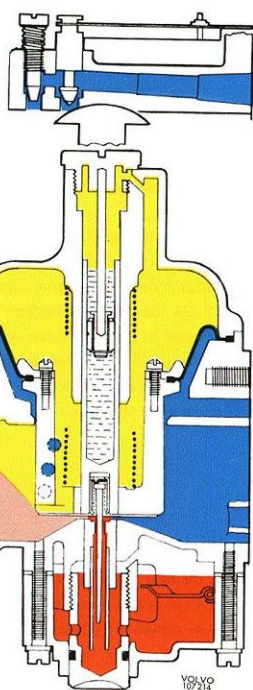

Fig. 2-78. Idling, warm engine
When the engine is idling, the vacuum in the carburetor suction chamber is low and the column between the air valve and the bridge will be small (see Fig. 2-78). At this stage, the thicker section of the metering needle is in the jet and thus only a small quantity of fuel, corresponding to idling requirements, is sucked into the engine. The temperature compensator (Fig. 2-77) is regulated by a bi-metal spring (3) which influences a valve (2). When the engine is warm and the temperature in the carburetor rises, the valve opens and air is supplied to the carburetor venturi to compensate for the increase in the fuel flow, which is obtained due to the alteration in the fuel's viscosity, see Fig. 2-78. Fine adjustment of the engine idling speed can be carried out with the idle trimming screw (1, Fig. 2-77).